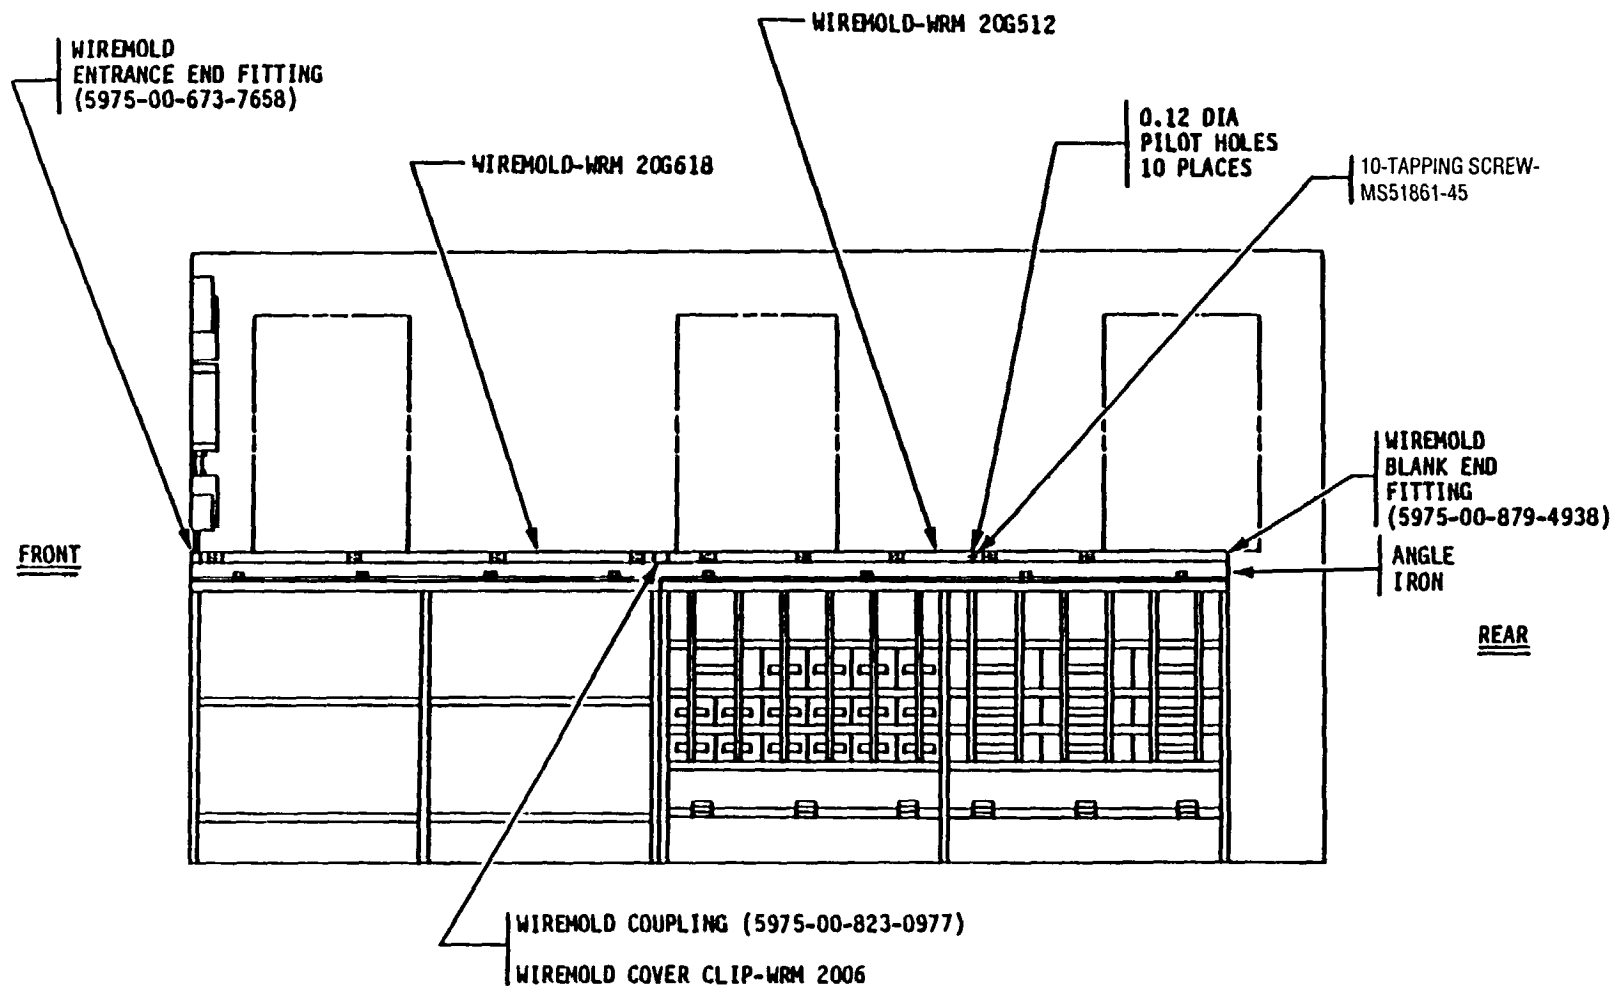

Figure 10. Wiremold Installation, Right Side Wall, M109A3.
(15) Repeat operations in steps 12, 13, and 14 above for installation of wiremold on right side of wall in accordance with figure 10.